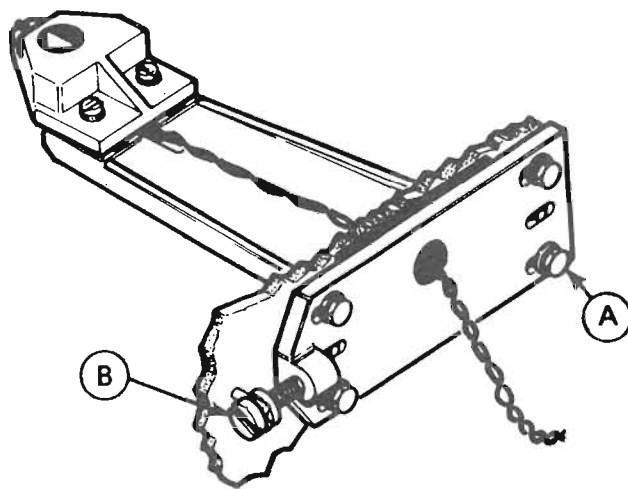
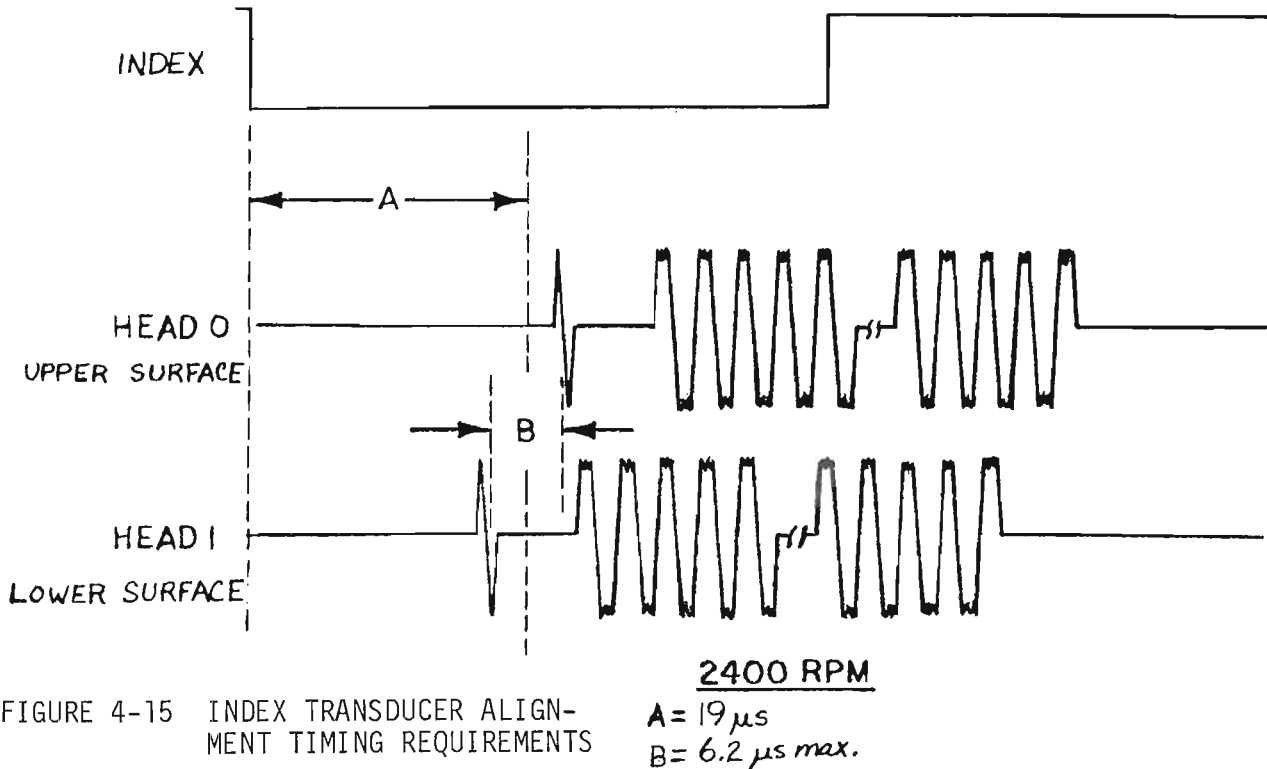

FIGURE 4-14 UPPER INDEX TRANSDUCER ADJUSTMENT
FIGURE 4-15 INDEX TRANSDUCER ALIGNMENT TIMING REQUIREMENTS
6. Locate the index transducer baseplate, which is screwed to the outside front of the bowl assembly at the centerline. This plate, shown in Figure 4-14, has four hex-head fastening screws ("A") and a slotted-head adjustment screw ("B").
4. Using the adjustment screw ("B" Figure 4-14), position the index transducer so that the leading edge of the read gate occurs $19 \text{ usec} \pm 3 \text{ usec}$ after the leading edge of the index mark. Do not tighten the fastening screws yet. See "A" in Figure 4-15.
5. Alternately selecting each of the upper heads, adjust the index transducer so that the read gate is symmetrical around the 19 usec point. Total pulse separation between the heads shall not exceed 6.25 usec. If this tolerance is exceeded, the heads must be checked for proper seating. See "B" in Figure 4-15.